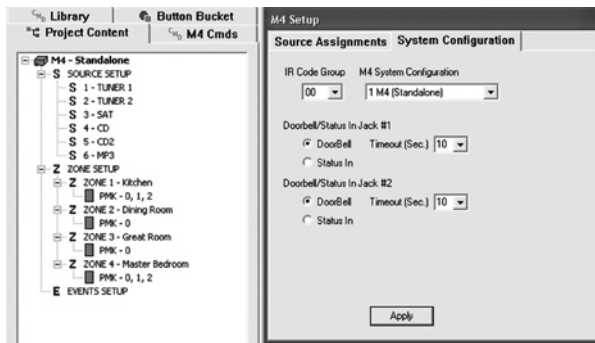

Figure 31 Selecting & Adjusting Doorbell Timeout
3. Just to the right, adjust **Timeout (Sec.)** to your preferred time value. A value of 8 to 10 seconds can be considered typical ... allow enough time to hear the doorbell event without interrupting the program for too long. Click **Apply**. Refer to **Figure 31**.